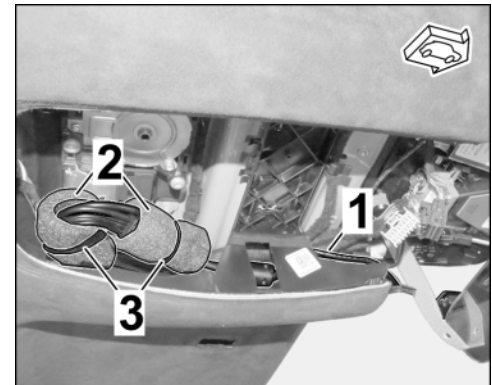

Figure 13
- 3.1.5 Tie back branch for 2nd camera and secure it to existing components/lines in the roof console area using another protective foam roll (⇒ *Figure 13*).